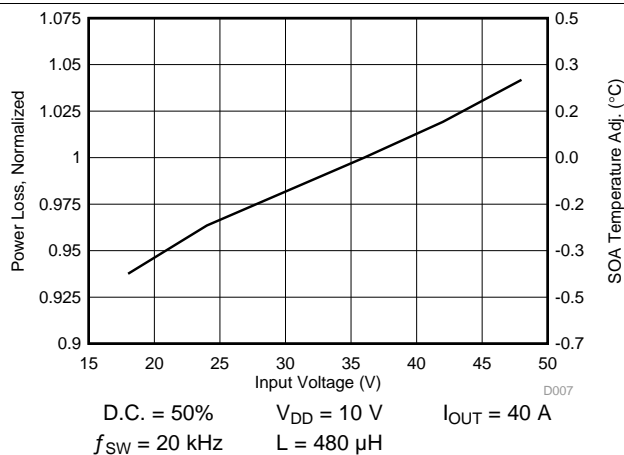

Figure 5. Normalized Power Loss vs Input Voltage
- Normalized power loss for input voltage \approx 1.03 (Figure 5)
- SOA adjustment for input voltage \approx 0.1°C (Figure 5)